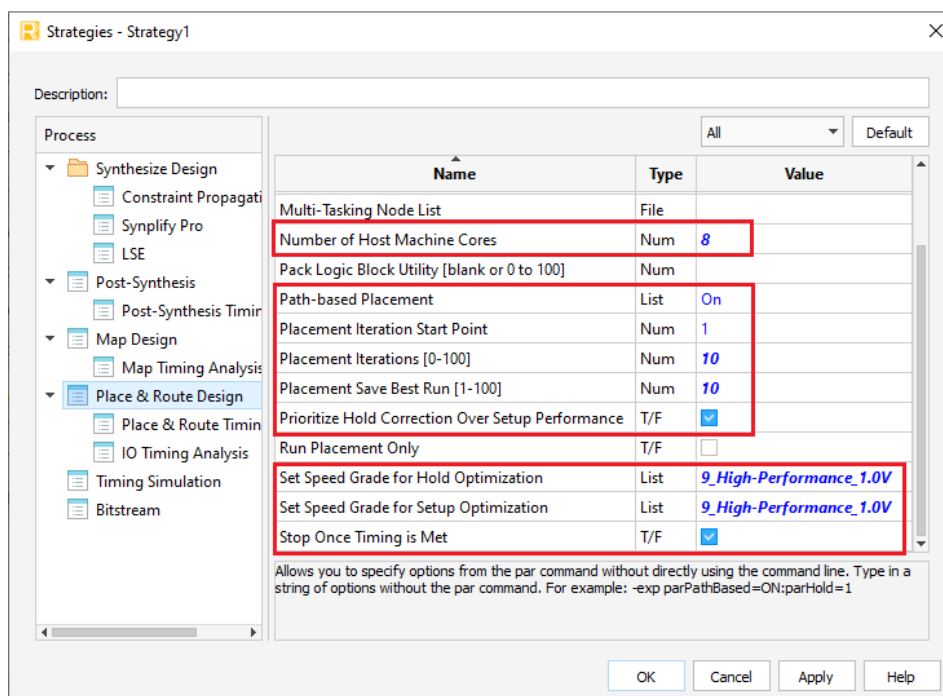

Figure C.77. PAR Setting for Main System Bit File Generation
12. Select **Place and Route Design** and only apply the settings shown in Figure C.77.